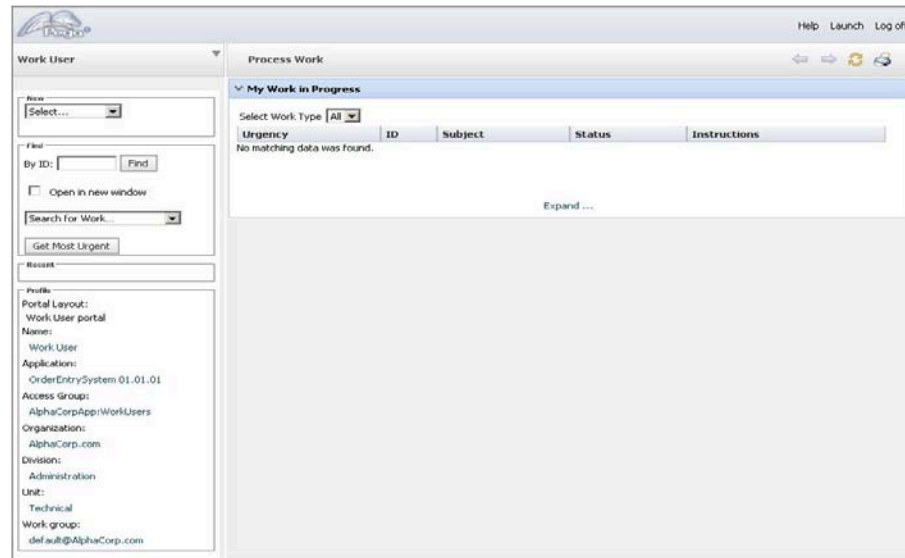

Figure 2-1. User Portal
1. Log in as WorkUser@AlphaCorp.com with the password **rules** to access the Order Entry System application. The Work User portal appears (Figure 2-1).
Figure 2-1 shows the portal layout typical for application users who are not managers. It provides access to work, status information, and facilities for searching through both incomplete and completed work. The colors, fonts, and logo used in this layout are Process Commander defaults; you can build applications using your company's standards and formats.